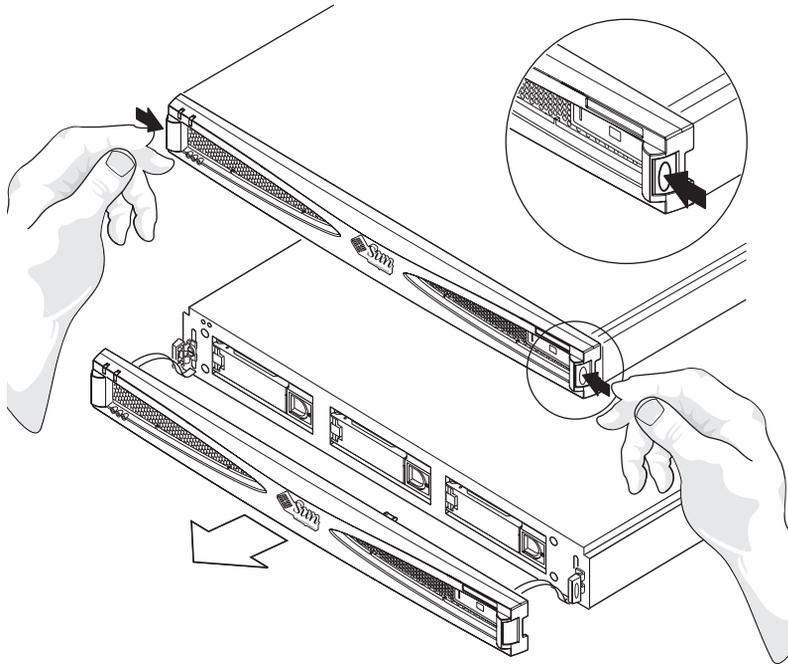

FIGURE 5-7 Removing the Front Bezel
1. Remove the front bezel by pressing the latches on both ends and pulling the bezel away from the enclosure (see FIGURE 5-7).